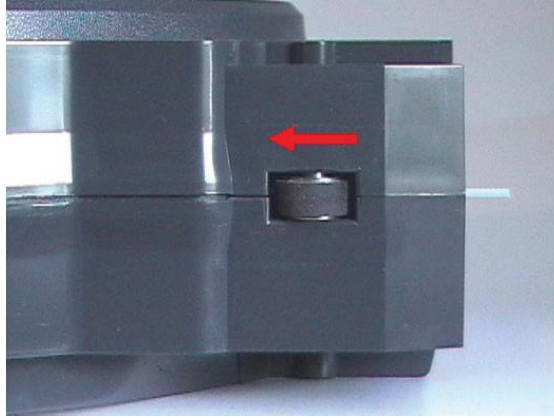

Figure 8: Direction to move cartridge roller
4. Move the filament out of cartridge using the pinch roller to expose about 12 inches of material. You should easily be able to move the material out (See Figure 8).